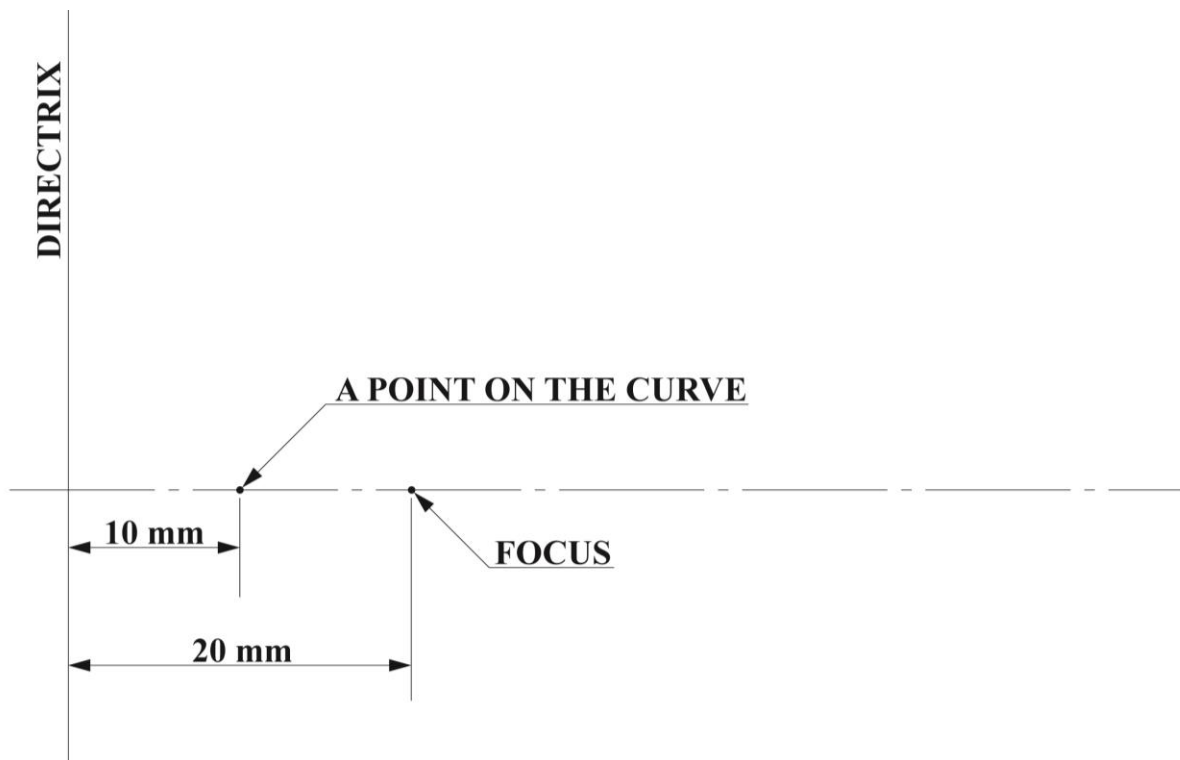

Figure 1. Framework for parabola
1. Figure 1 shows the framework for a parabola.
- (a) Draw a parabola given the relative positions of the focus and the directrix as shown in Figure 1.